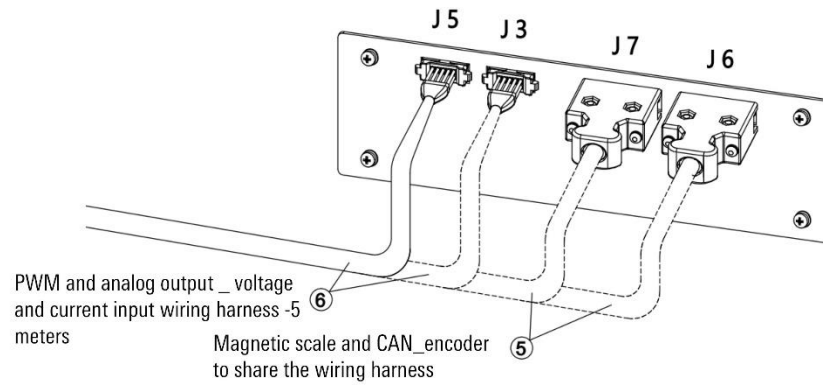

Figure 18-20 MCBS-IEB front view
Step5. Connect the outside lines of the cabinet according to the functions used, refer to Figure 18-20: